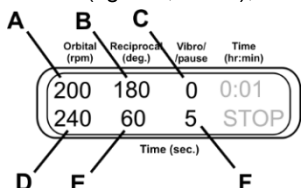
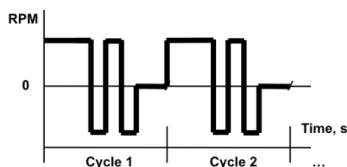

Figure 9.
Figure 10.
- 6.9.3 **Orbital + Reciprocal + Pause.** Set the speed (fig. 9/A, 20–250 rpm) and time (fig. 9/D, 1–250 s) of Orbital motion. Set the amplitude (fig. 9/B, 0–360°) and time (fig. 9/E, 1–250 s) for Reciprocal motion. It is performed at the same speed as the Orbital motion. Set the amplitude (fig. 9/C) of Vibro motion to zero. Set the time for Vibro motion (fig. 9/F, 1–5 s), this is the time of pause duration (fig. 10).